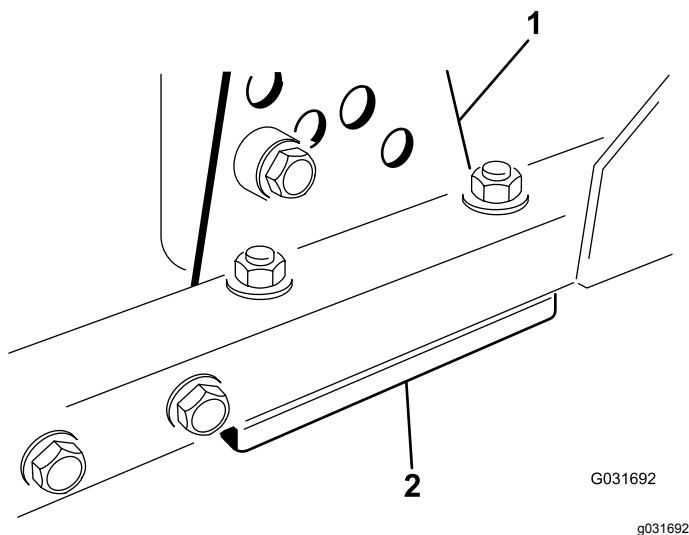

Figure 82
1. Remove the height-of-cut bracket (front, left, or right) from the deck frame (Figure 82).
2. Adjust 1.5 mm (0.060 inch) shims and/or 0.7 mm (0.030 inch) shim between the deck frame and bracket to achieve the desired height setting (Figure 82).